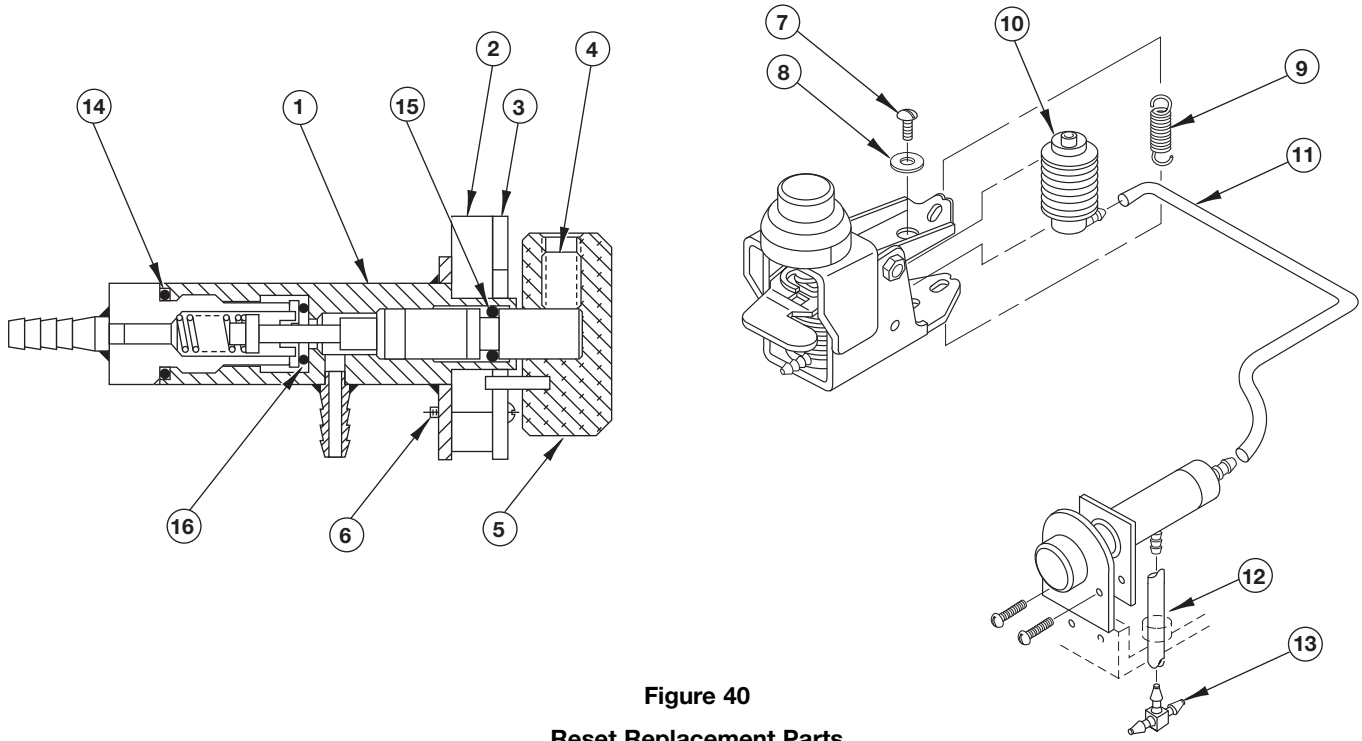

Figure 40
3.3.7.1 Reset Replacement Assemblies (See Figures 40 & 41)
3.3.7.2 Replacement Kits (See Figures 40 & 41)